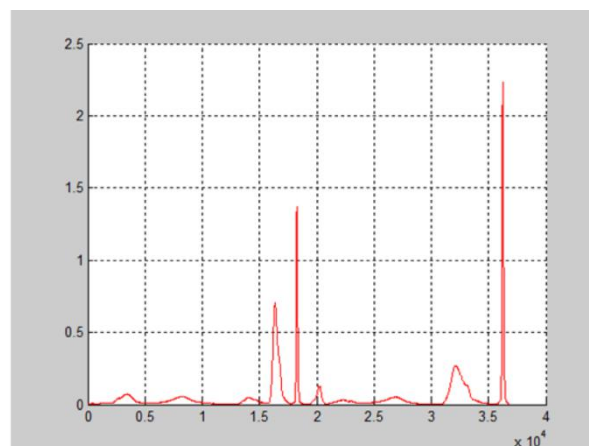

Fig.104 Spectrum Curve measured by SE1022
4. Start the spectral measurement and collect data from the data collection platform. Then, you will get an uncalibrated spectral curve as is shown in Fig.104.